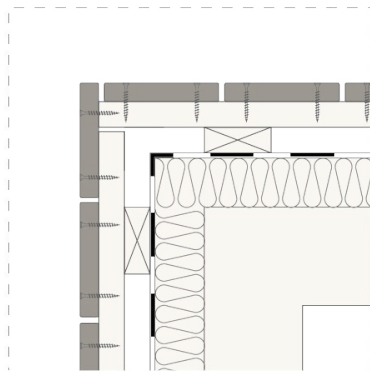

Fig. 2
- by overlapping the cladding boards (see Fig. 2; 3)